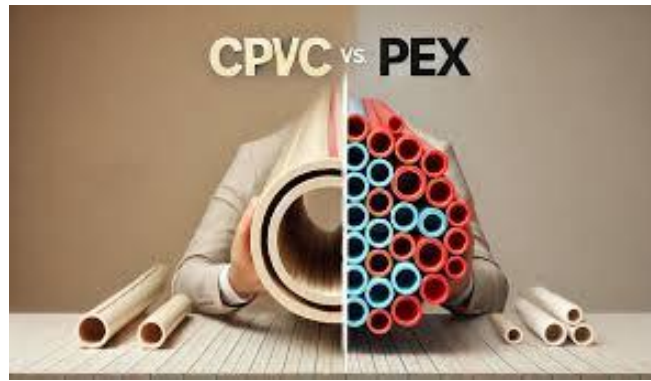

Fig. 2.7: CPVC versus PEX
2. **PEX (Cross-linked Polyethylene) Fittings:** PEX is a flexible, durable plastic tubing widely used in modern plumbing systems. It is made from cross-linked polyethylene, which enhances its strength, heat resistance, and flexibility. PEX pipes and fittings have gained popularity in plumbing due to their flexibility and resistance to corrosion. PEX fittings come in various types, including crimp, clamp, and push-fit connections. Refer Fig. 2.7 for the comparison of CPVC and PEX pipes.